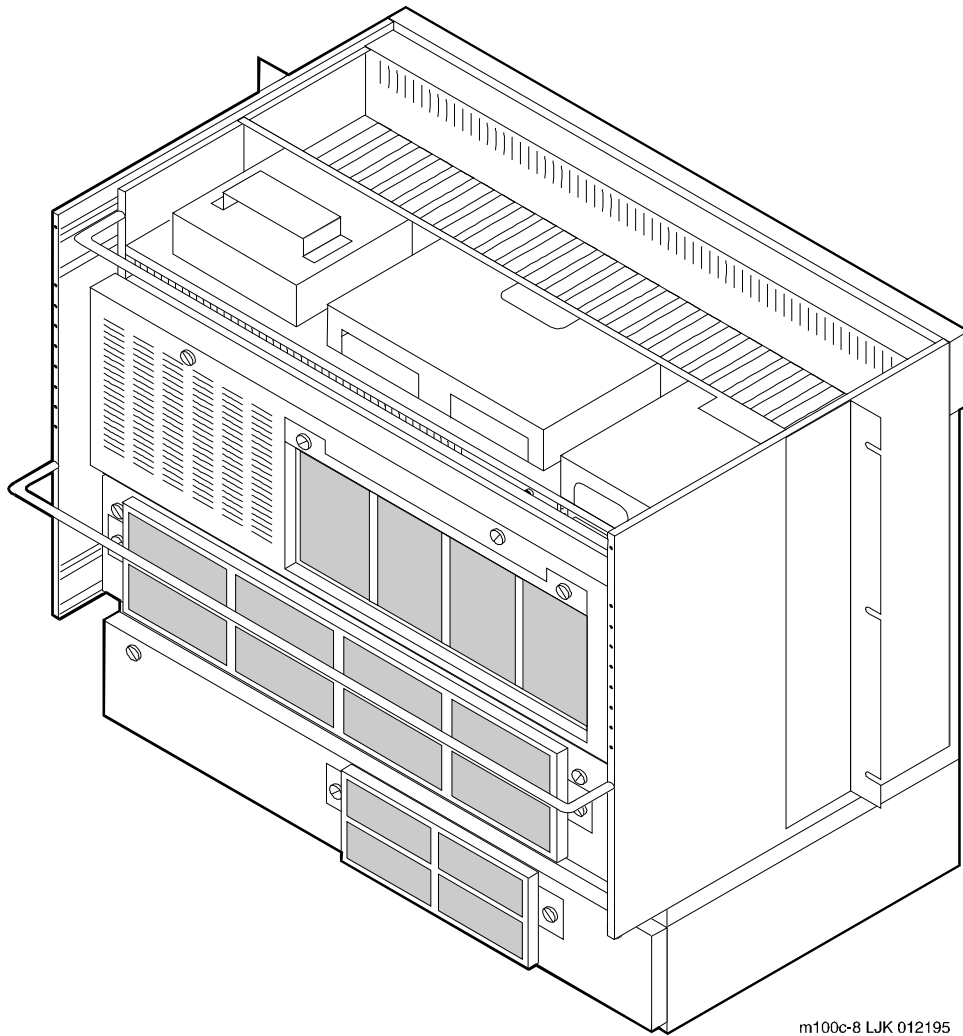

Figure 4-6. MAP/100C Back View
5. Turn off the circuit breaker on the back of the MAP/100C (Figure 4-6).
2. Turn on the circuit breaker on the back of the MAP/100C (Figure 4-6).